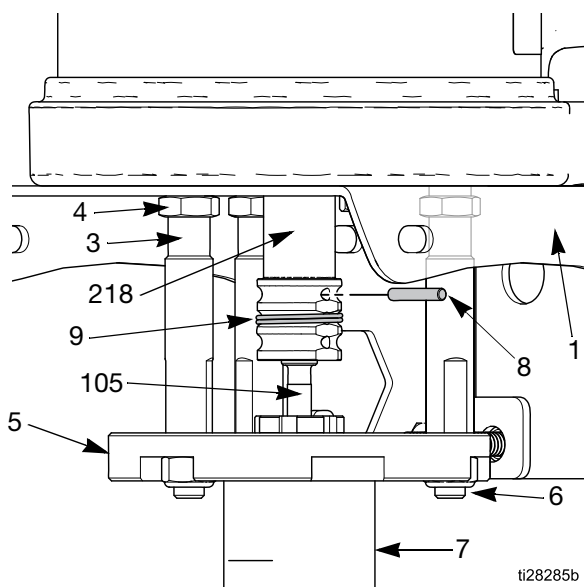

FIG. 20 Retaining spring and connector pin
3. See FIG. 20. Push the safety spring (9) down and hold to access the pilot valve (213) on the bottom cover (201).
4. See FIG. 20. Push the split spring (9) up or down and hold to access the dowel pin (8). Push out the pin, using a screwdriver or punch.
5. Remove the nuts (6) from the bottom of the tie rods (3).
6. Remove the pump lower (7). The adapter plate (5) will remain attached to the pump lower.
7. Remove the split spring (9).
8. Loosen the nuts (4) at the top of the tie rods, then remove the tie rods. The mounting bracket (1) is loosened from the motor as the tie rods are removed.